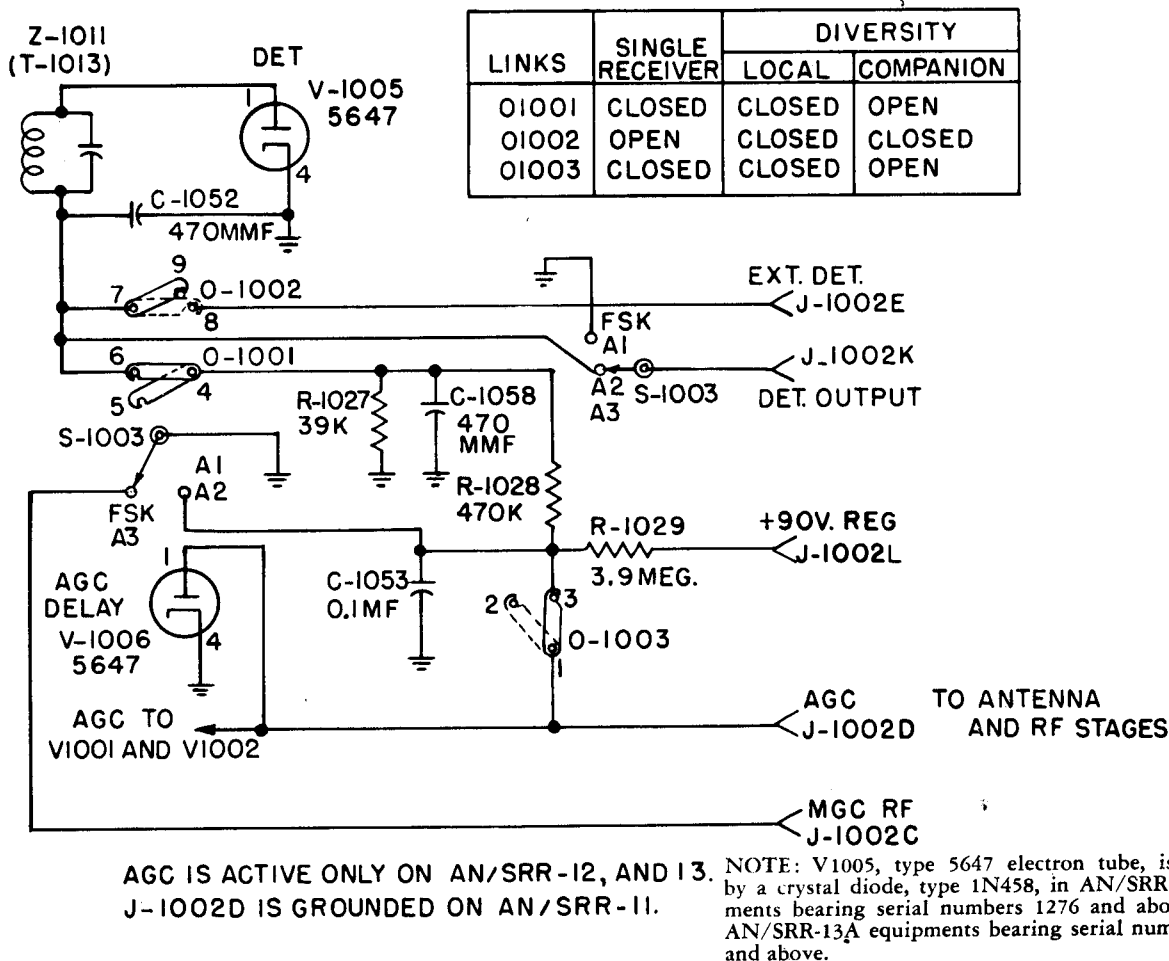

Figure 2-3. Detector and AGC, Simplified Schematic
(3) TUNING METER.—In the AN/SRR-11 the TUNING meter M251 is connected to indicate the current in the diode detector, V1005. In the AN/SRR-12 and AN/SRR-13 the output of the third amplifier, V1003, is applied to a 200-kilocycle tuned circuit in Z1009 and rectified by a crystal rectifier CR1001 to actuate the movement of the TUNING meter M451 or M651 mounted on the front panel. When the desired signal is detuned, the rectified signal voltage applied to the TUNING meter is low, and the meter reads down scale. As the desired signal is tuned, the rectified voltage increases and the TUNING meter reads up scale. The HIGH-LOW switch, S254, S454, S654 (depending on the receiver type) mounted below the TUNING meter on the front panel, attenuates the meter reading when the switch is in the LOW position by connecting a shunt resistor, R253, across the meter for the AN/SRR-11 or adding a series resistor R453 or R653 for the AN/SRR-12 and -13. This resistor is removed when the switch is in the HIGH position.
(4) BFO-MIXER.—Output from the third i-f amplifier, V1003, is fed to the first grid of the BFO-mixer, pin 1 of V1004. Signals from the beat frequency oscillator V1301 are applied to the third grid, pin 4, of V1004 through capacitor C1306. (See paragraph 2i of this section for BFO circuit description.) The 200-kilocycle i-f signal and the signal from the BFO are heterodyned in V1004 to produce a difference frequency in the audio range. This difference frequency component is fed to the audio amplifier V1102 through S1003, J1002N, J1101D, and S1101A, when the RECEPTION control is set at A1 BROAD, A1 SHARP (and A1 MEDIUM for AN/SRR-13A). When this control is set at FSK, the signal goes to V1102 through S1003, J1002N, the center arm of the OUTPUT control R257B, R457B, or R657B (depending on the receiver type), J1101J, and S1101A.
(5) DIODE DETECTOR AND DELAYED AGC.—(See figure 2-3). Signals at 200 kc from the plate
(6) DUAL DIVERSITY RECEPTION (AN/SRR -12 or -13 only).—Links are provided in the diode detector and AGC circuits of the AN/SRR-12 and -13 receivers for applying a rectified signal voltage and automatic gain control voltage to a second AN/SRR-12 or -13 designated as the companion receiver. With links O1001, O1002, and O1003 in positions as given in the table of figure 2-3 for diversity connection, the diode load resistor R1027 and the delayed AGC circuit of the local receiver are made common to the companion through the DET AGC receptacles J1803 and suitable cabling. When using a diversity system, gain of both receivers must be balanced. This is accomplished by regulating the amount of amplification in V1001 and V1002 of each receiver through adjustment of the DIVERSITY GAIN BAL. control R452 of the AN/SRR-12 or R652 of the AN/SRR-13, a recessed screwdriver adjustment on the front panel.
(7) FREQUENCY SHIFT AND PANORAMIC OPERATION.—Intermediate frequency outputs are supplied by the AN/SRR-11, -12, -13 receivers to feed a frequency shift converter and also in the AN/SRR-12 and -13, a panoramic adapter.